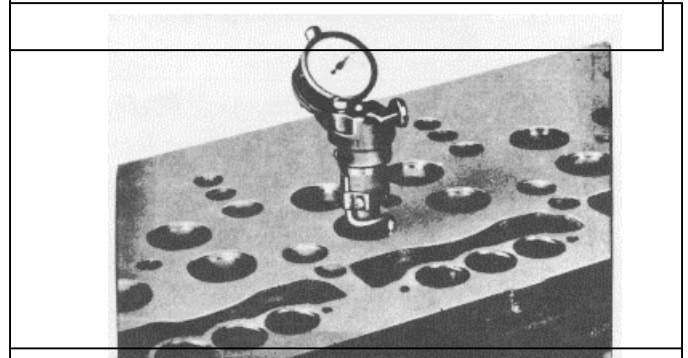

Fig. 14
- (5) After the grinding has been completed, clean the valve seat insert thoroughly with fuel oil and dry it with compressed air. Set the dial indicator J 8165-2 in position as shown in Fig. 14 and rotate it to determine the concentricity of each valve seat insert relative to the valve guide. Total runout should not exceed .002". -If a runout of more than .002" is indicated, check for a bent or worn valve guide before regrinding the insert.